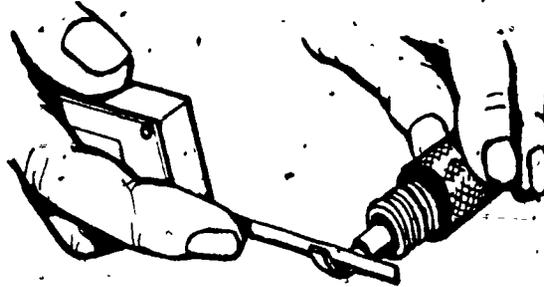

FIGURE 5
2. Bend the ground electrode slightly to open gap (Figure 5)